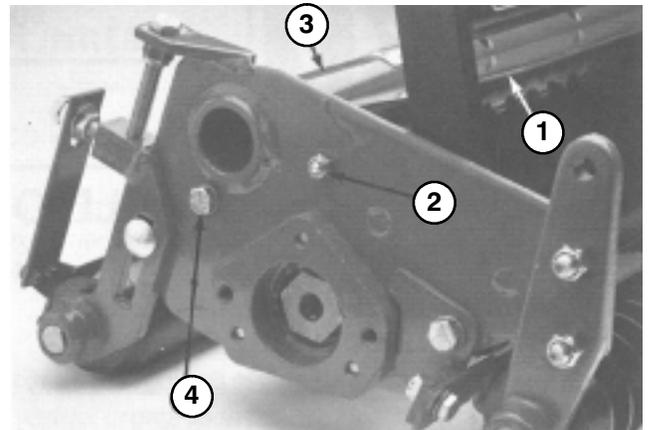

Figure 3
ADJUSTING FRONT GRASS SHIELD (Fig. 3)
1. Loosen the (2) capscrews retaining the front grass shield (Fig.3).
2. Pull top of front grass shield to desired height and tighten (2) capscrews.
ADJUSTING REAR GRASS SHIELD (Fig. 3)
1. Loosen the capscrew on the right side of the dethatcher reel, located on the pivot of the rear grass shield (Fig. 3).